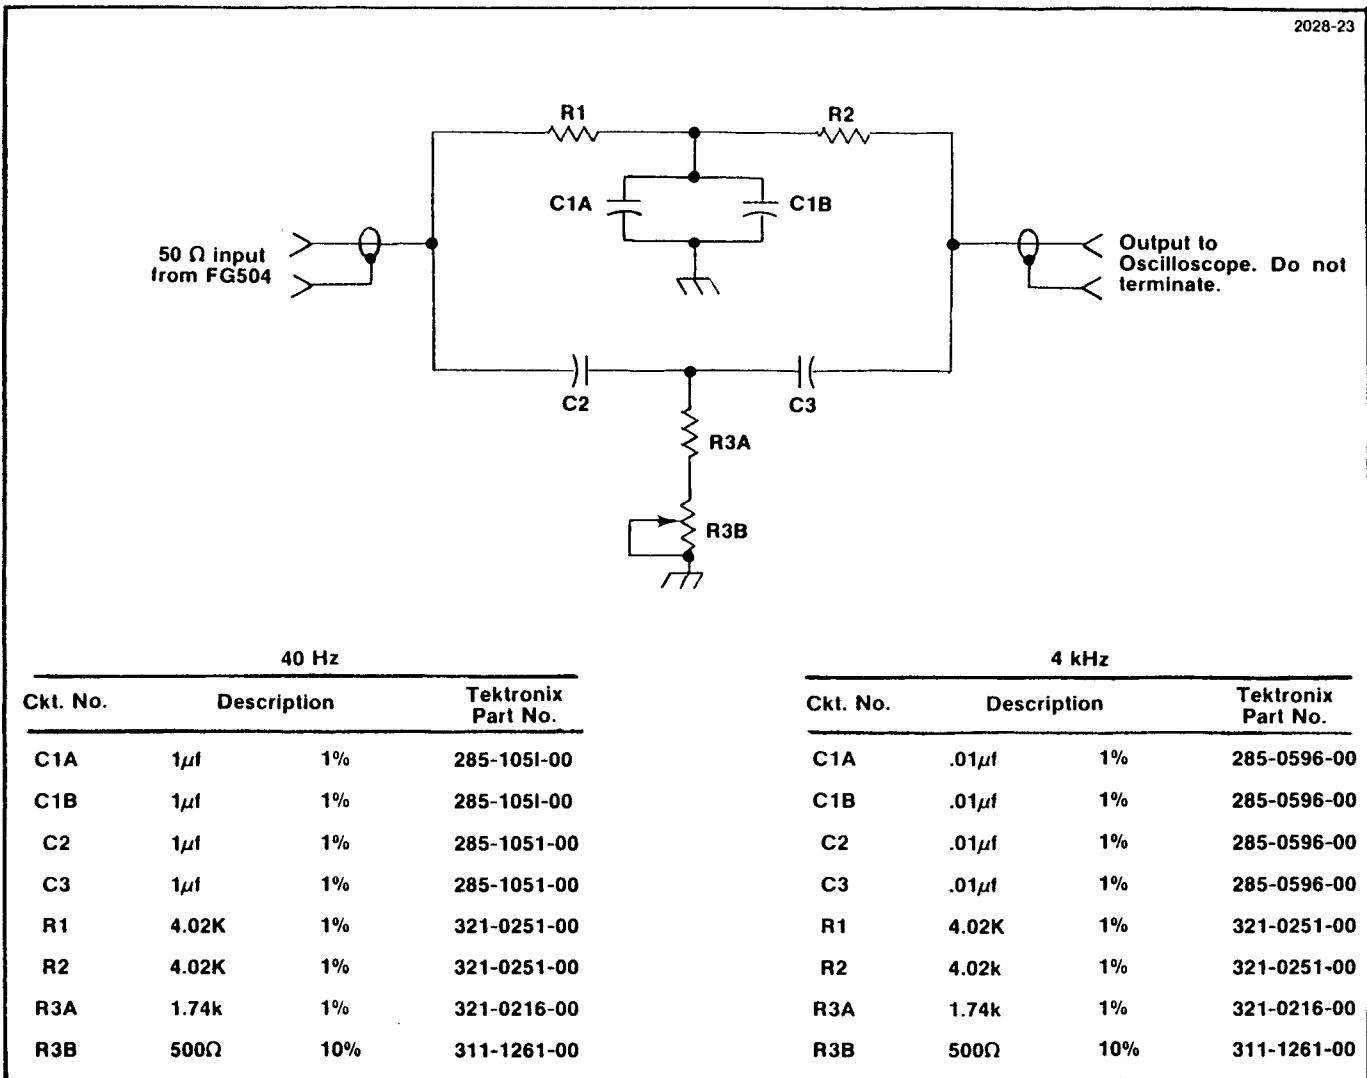

Fig. 3-1. 40 Hz and 4 kHz notch filters.
g. Distortion analyzer or a 40 Hz and 4 kHz notch filter constructed as shown in Fig. 3-1.